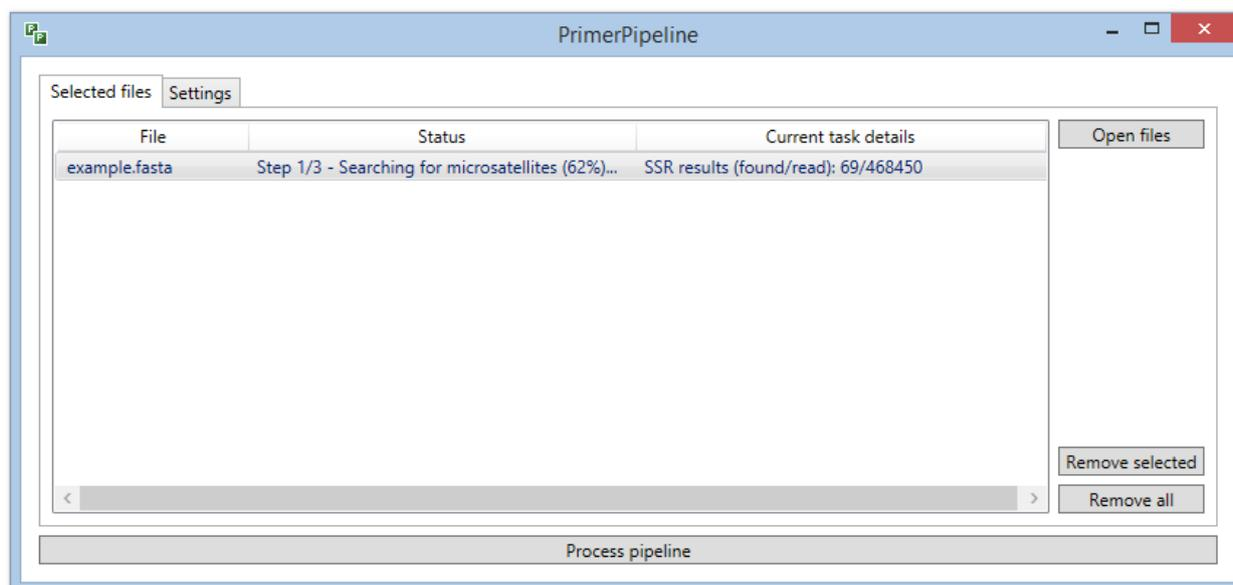

Figure 10. How **PrimerPipeline** looks whilst running step 1/3 – Searching for microsatellites.
- Within the 'Current task details' column the 'SSR results (found/read)' are shown and updated every 50 sequences, therefore is constantly updating (Figure 10).
- Within the 'Status' column the percentage complete compares the amount of sequences read to the total number of sequences in the input file (Figure 10).